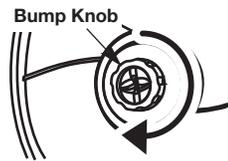

Fig. 31
1. Rotate the bump knob clockwise until all line is inside the cutting head (Fig. 31).
3. Hold the spool cover, turn the bump knob clockwise to wind the line around the spool until about 5 in. (12.7 cm) is protruding from each side of the cutting head. (Fig. 31)